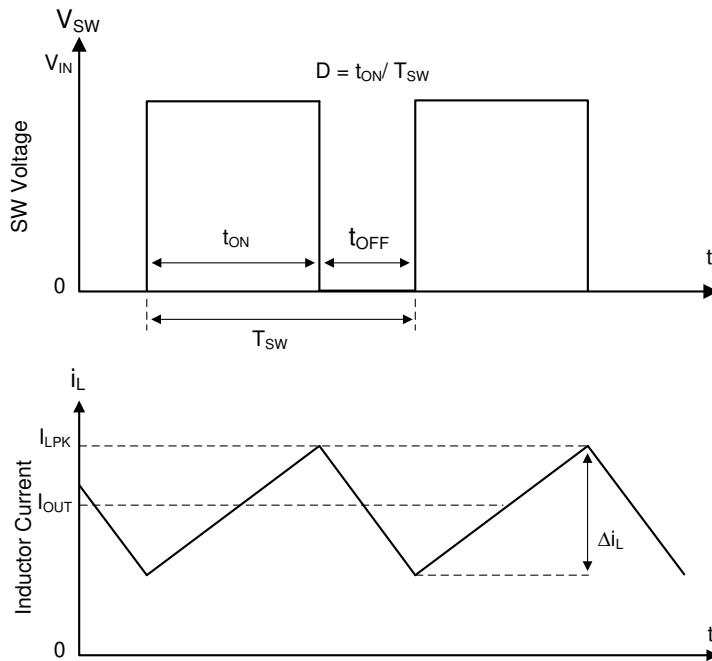

Figure 7-1. SW Node and Inductor Current Waveforms in Continuous Conduction Mode (CCM)
The following operating description of the LMR544xx refers to Section 7.2 and to the waveforms in Figure 7-1. The LMR544xx is a step-down synchronous buck converter with integrated high-side (HS) and low-side (LS) switches (synchronous rectifier). The LMR544xx supplies a regulated output voltage by turning on the high-side and low-side NMOS switches with controlled duty cycle. During high-side switch ON time, the SW pin voltage swings up to approximately V_{IN} , and the inductor current, i_L , increases with a linear slope of $(V_{IN} - V_{OUT}) / L$. When the high-side switch is turned off by the control logic, the low-side switch is turned on after an anti-shoot-through dead time. Inductor current discharges through the low-side switch with a slope of $-V_{OUT} / L$. The control parameter of a buck converter is defined as Duty Cycle $D = t_{ON} / T_{SW}$, where t_{ON} is the high-side switch ON time and T_{SW} is the switching period. The converter control loop maintains a constant output voltage by adjusting the duty cycle D. In an ideal buck converter, where losses are ignored, D is proportional to the output voltage and inversely proportional to the input voltage: $D = V_{OUT} / V_{IN}$.